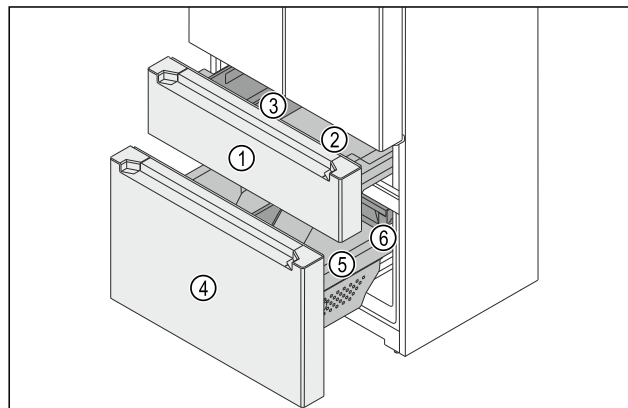

Fig. 155 Freezer section pull-out carts
- (1) Top pull-out cart
- (2) Container
- (3) FlexBox
- (4) Bottom pull-out cart
- (5) Container
- (6) Drawer
The freezer section consists of two pull-out carts. The top pull-out cart Fig. 155 (1) has one container Fig. 155 (2) and one FlexBox Fig. 155 (3). The bottom pull-out cart Fig. 155 (4) has a larger container Fig. 155 (5) and a drawer Fig. 155 (6). You can remove the FlexBox and the container in the top pull-out cart for cleaning.